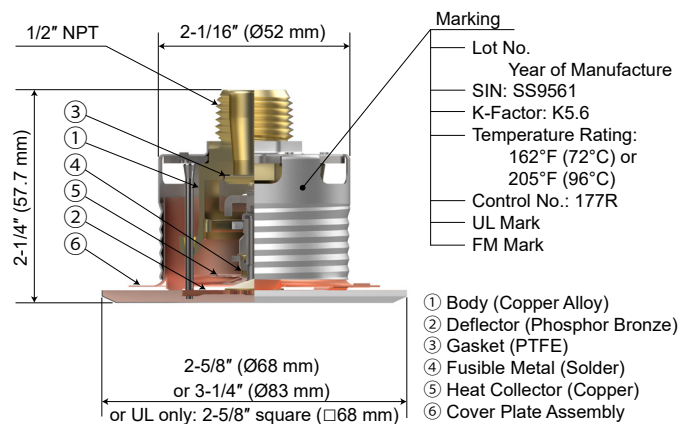

Figure 1: Model RC-QR, K = 5.6
• Physical Characteristics: Ref. Figures 1 and 1.1